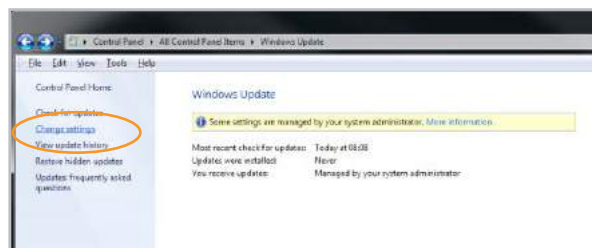

Figure 250 Select change settings in windows update
2. Select **Change settings** (Figure 250).